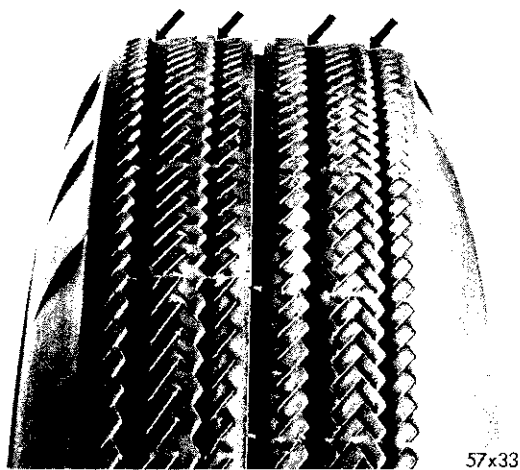

Fig. 11—Toe-In Wear
b. Excessive toe-in or toe-out (Figs. 11 and 12) of front wheels affects the rate of tire wear more than any other factor.